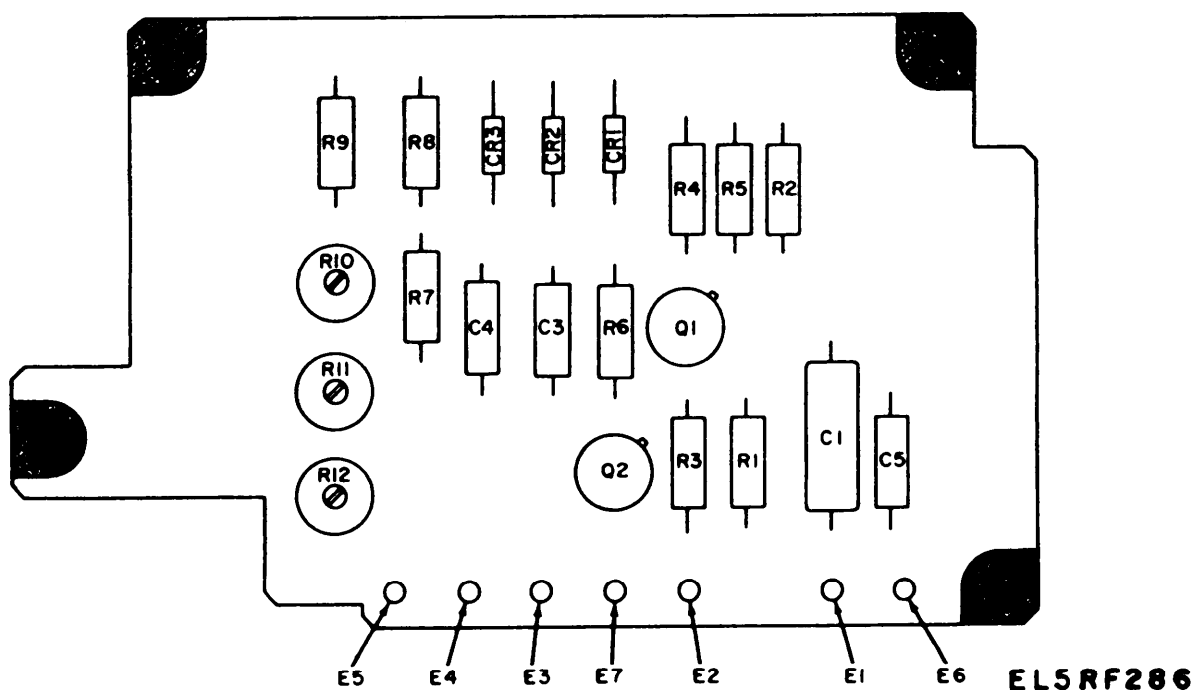

Figure 3-113. Video Monitor 5TR1A5A1, Parts Location.
(c) If necessary, on the unit under test, adjust R12 (fig. 3-113) to obtain the indication given in (b) above.
(e) If necessary, on the unit under test, adjust R11 (fig. 3-113) to obtain the indication given in (d) above.
(g) If necessary, on the unit under test, adjust R10 (fig. 3-113) to obtain the indication given in (f) above.
Normal output; abnormal indications with switch S28 set to FDM, 12 CHAN or 24 CHAN positions (b(4) above).	a. Measure the voltages and resistances of Q1 and Q2 (fig. 3-113). 5TR1A5A1 (d below). Replace component as required.